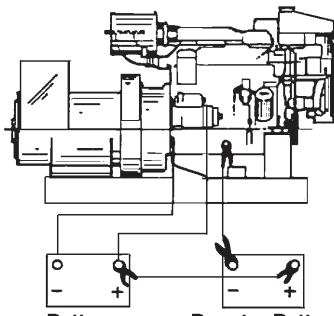

Figure 18:
3. First, connect positive (+) terminal of booster battery to positive (+) terminal of main battery. Then, connect negative (-) terminal of booster battery to ground on the engine block (see Figure 18).